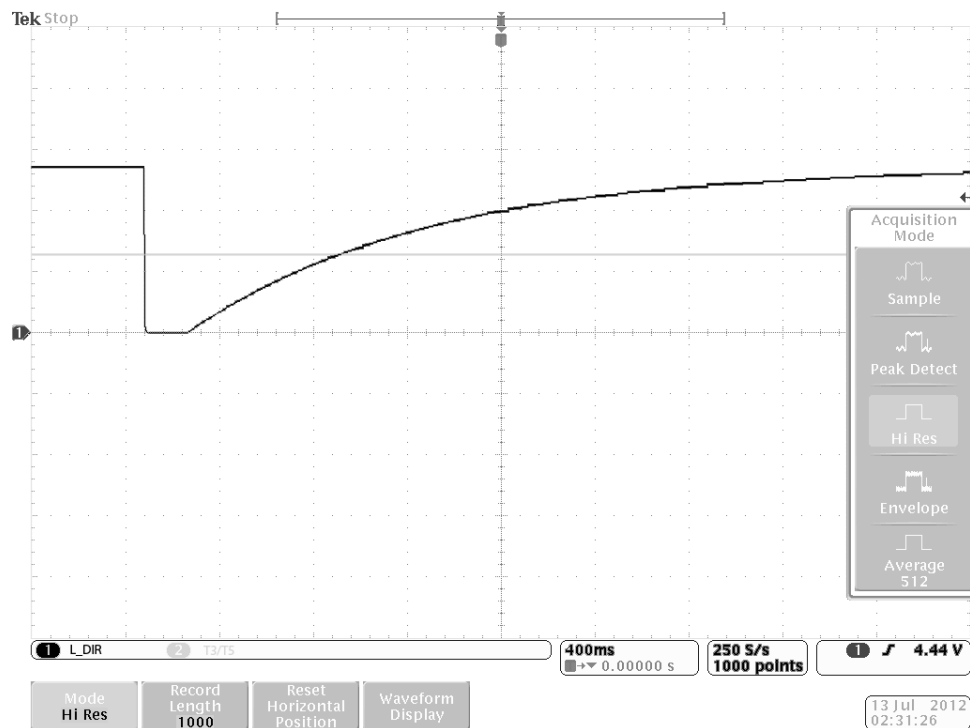

Figure 5.8: Voltage Ramp Example
7. Use the skills and knowledge gained from the previous lab about the oscilloscope to capture a waveform that represents the ramp generator and direction change. Your waveform will look similar to figure 5.8